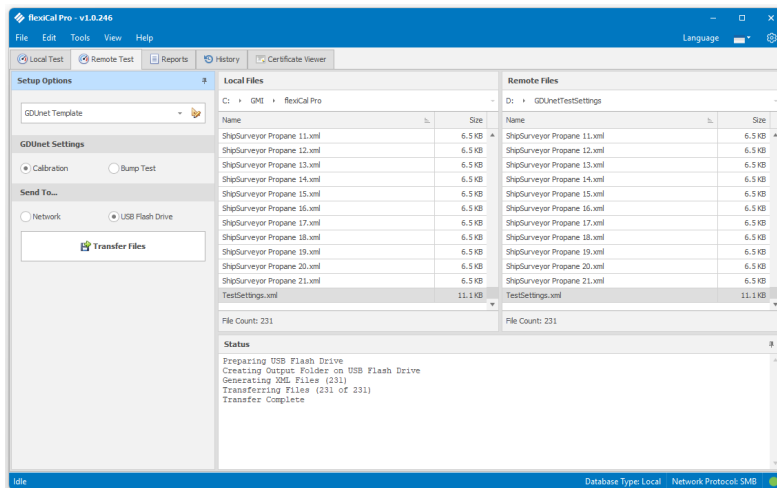

Figure 3-21: Copying the configuration files
- Open the front panel door and insert the USB flash drive into the USB port located on the front of the GDUnet PCB, as illustrated in Figure 3-21.